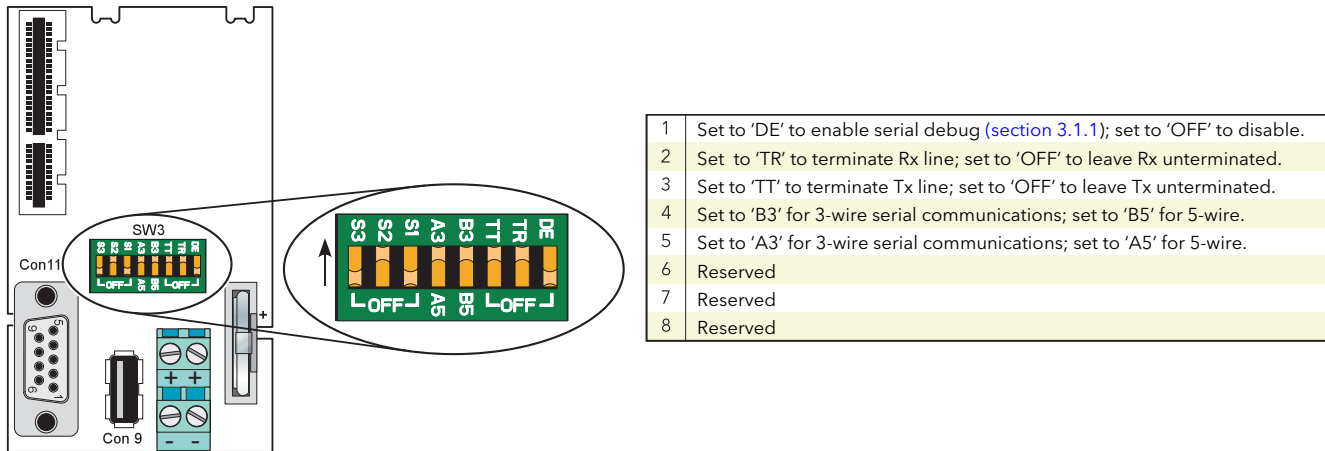

Figure 10 Communications hardware configuration details
2. 3-wire/5-wire working is selected using the eight-element slider switch (SW3) located on the IOC terminal board. The Tx and Rx lines can also be terminated (with 150Ω resistors) using other elements of this switch. See Figure 10 for details.